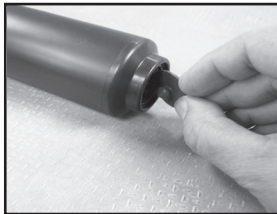

Figure 4
4. Inspect check valve in bottom of barrel. If worn or damaged, remove and replace by pressing into hole in bottom of barrel. **(See Figure 4)**